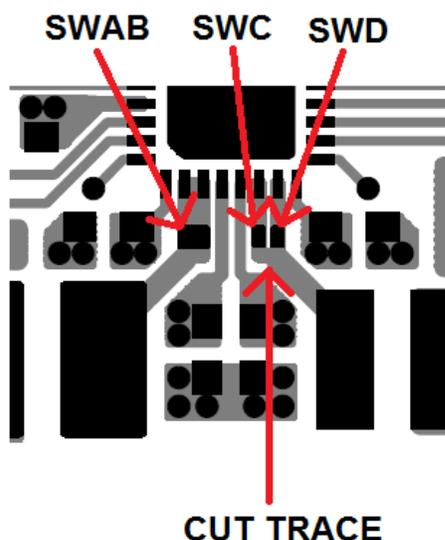
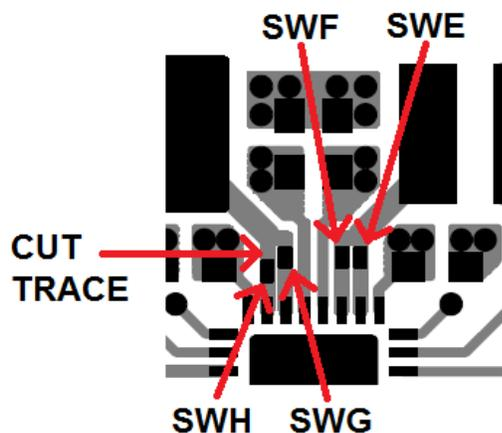

Figure 5. Cut SWC and SWD connection near pins
Figure 6. Cut SWH trace between L4 and SWH pin
4. Any switch node associated with a V_{IN} trace that was cut will also need to be cut. The SWC/SWD traces and SWD/SWF traces can be cut in between to pads near the SW pins as shown in Figure 5. The SWG/SWH traces only need to be cut for the “4112” configuration. SWH needs to be cut between the SWH pin and L4 as shown in Figure 6.
- All switch nodes of adjoining power stages will need to be connected together. Each power stage has a pad to solder a small bus wire, 28AWG. The switch node pads are also shown in Figure 5 and Figure 6. Carefully solder a bus wire as short as possible between adjoining power stages.